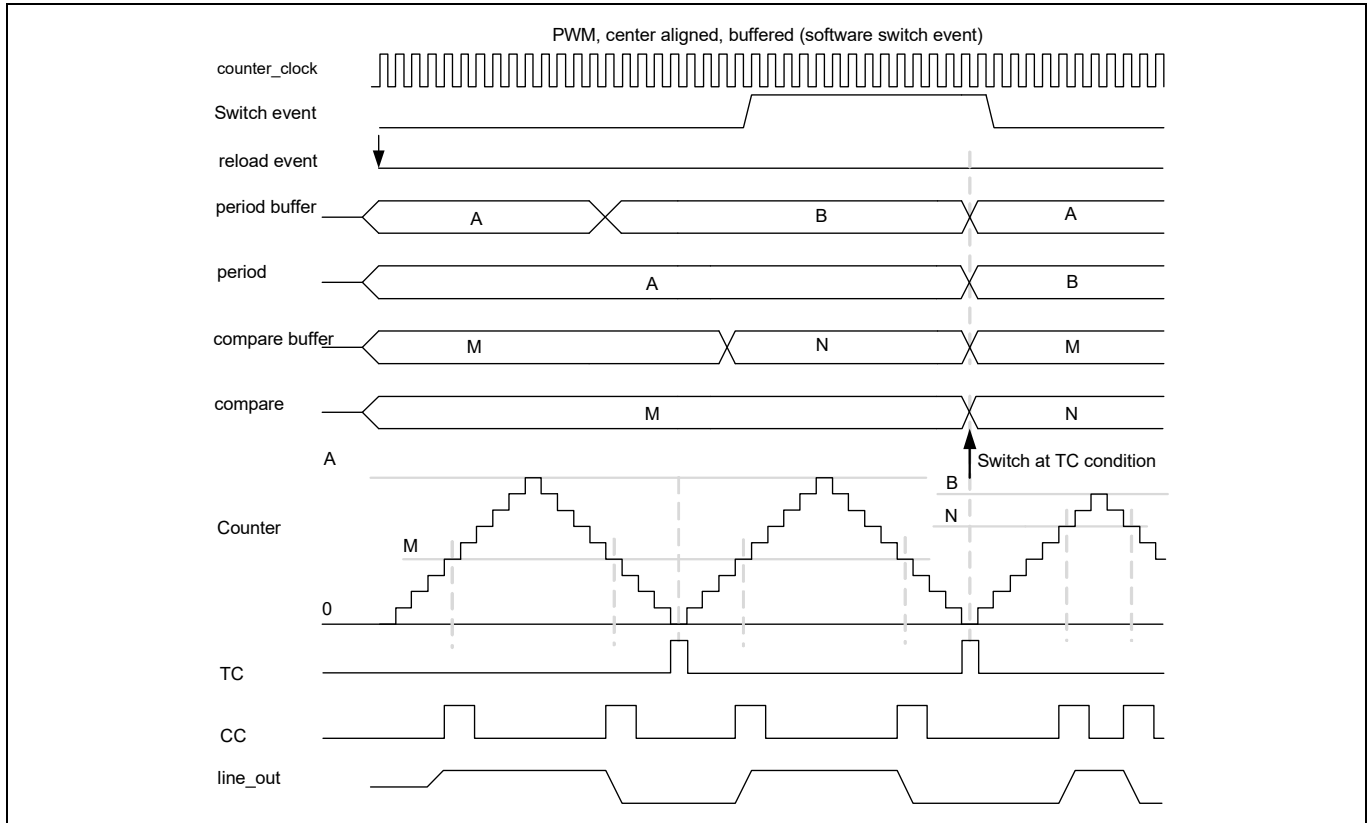

Figure 21-71. Timing diagram for center aligned PWM (software switch event)
- Updates to the buffer period register and buffer compare register should be completed before the next TC with an active switch event; otherwise, switching does not reflect the register update, as shown in Figure 21-71.